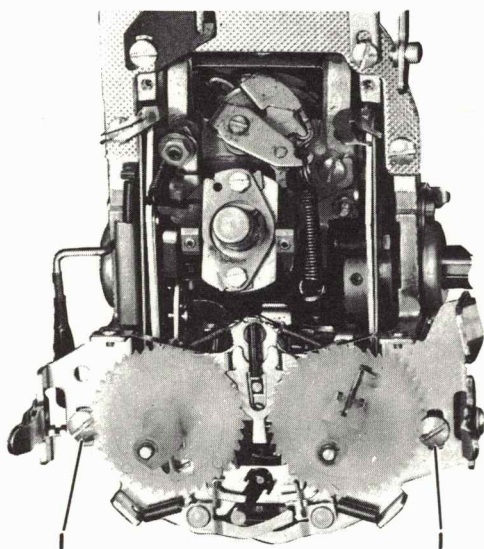

FIGURE 52. Carrier and Rocker Removal
- ✓1. Remove mounting screws (#1, Figure 52).